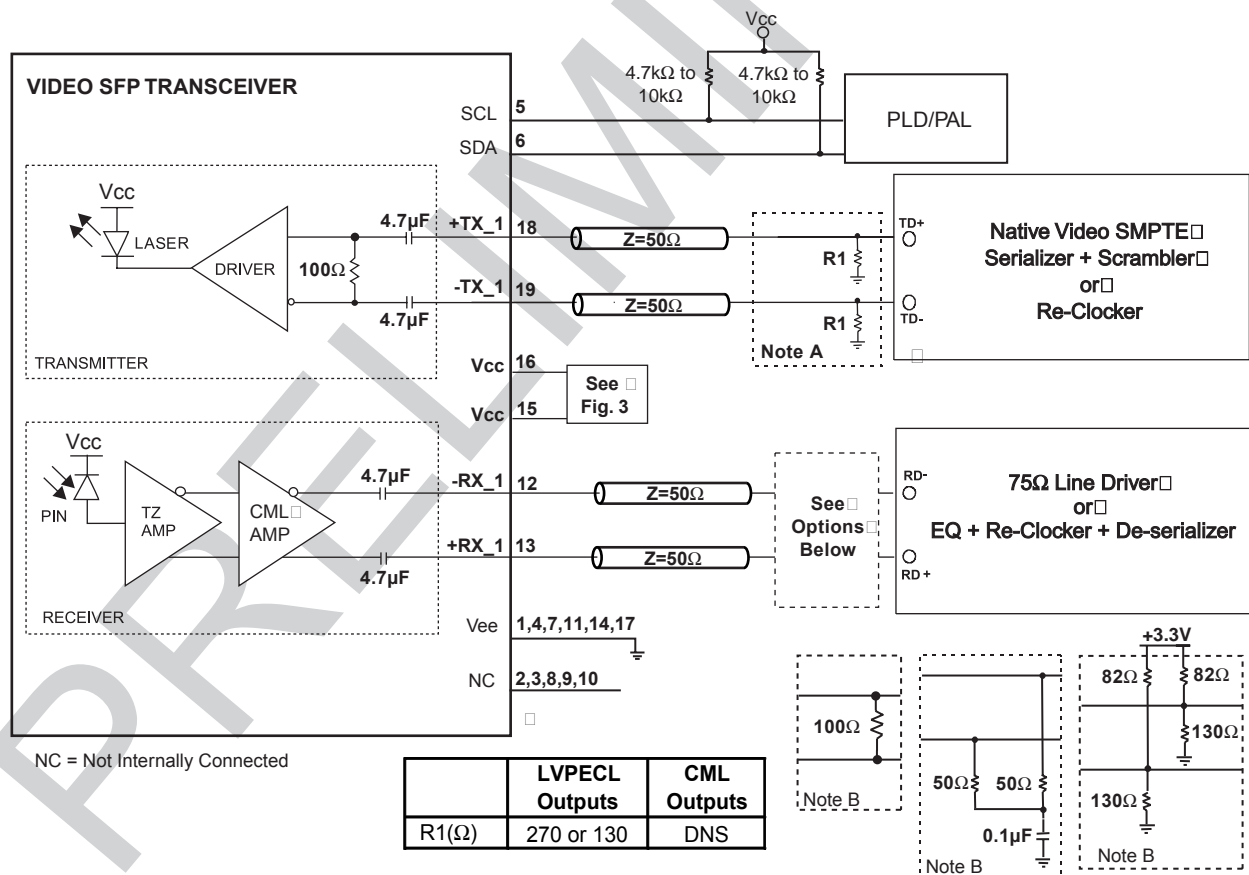

Figure 2. Recommended TRANSMIT and RECEIVE Data Terminations
(6) TX2\_DIS: Floating; Not Internally Connected.
(7) ±RX\_1: These are the differential receiver CML level outputs. They are AC coupled 100ohm differential lines which should be terminated with 100ohm (differential) at the user SERDES. The AC coupling is done inside the module and is thus not required on the host board. The voltage swing on these lines will be between 400 and 1200mV differential (200-600mV single ended) when properly terminated. Refer to figure 2 for recommended receive data lines terminations.
Subsequently, this affords the customer the ability to optimally locate the chip-set being interfaced to as close to the SPLC-20-9D-2-B as possible and save valuable real estate. At gigabit rates this can provide a significant advantage resulting in better transmission performance and accordingly better signal integrity. Figure 2 illustrates the recommended transmit and receive data lines terminations